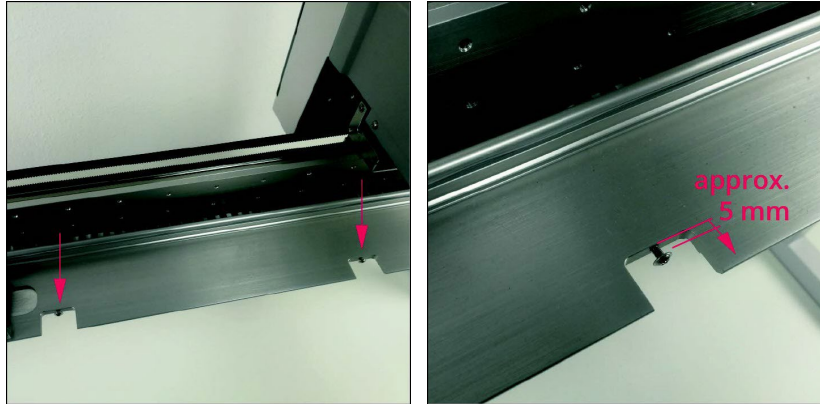

Figure 107: X-beam Rear Cover Assembly 1
1. Locate the mid screw positions on the X-rail frame. Depending on the length of the X-rail, locations are found at 1, 2, or 3 middle screw positions. Allow a minimum of 5 mm of thread for all the mid screws. This is the required distance to attach the rear cover. See Figure 107.